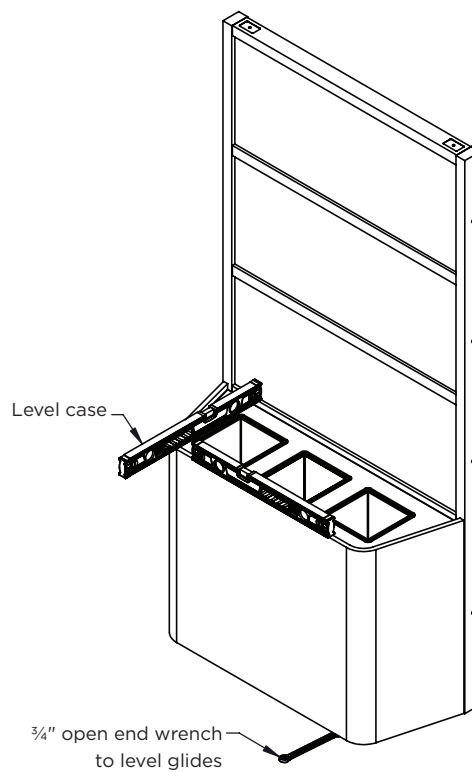

Figure 4A
1. Start with the middle unit in the ganging series. Position in the final install location and level unit with the glides. A  $\frac{3}{4}$ " open end wrench can be used to adjust the glide. (**Figure 4A**)